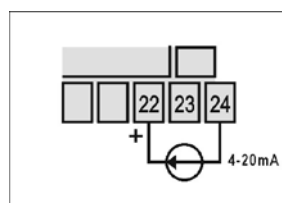

Fig. 5 – Connection of 4-20 mA
- 4-20 mA: Fig. 5 shows the 4-20 mA current signals wiring.